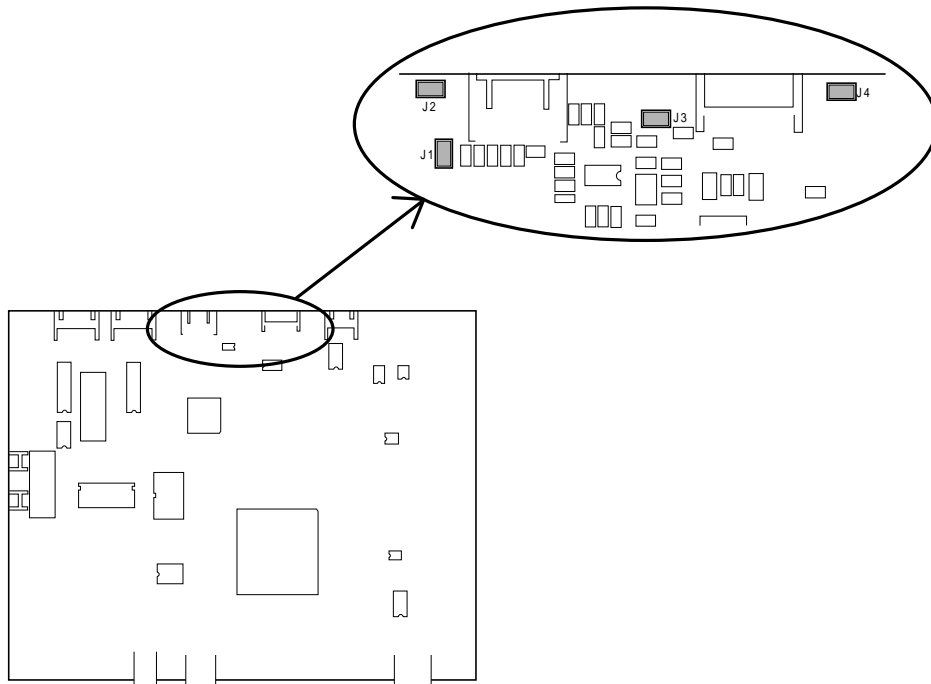

Fig. 3 Main Board Assy
- 2) Connect the probe of an oscilloscope to the Main Board Assy. (See Figure 3.)